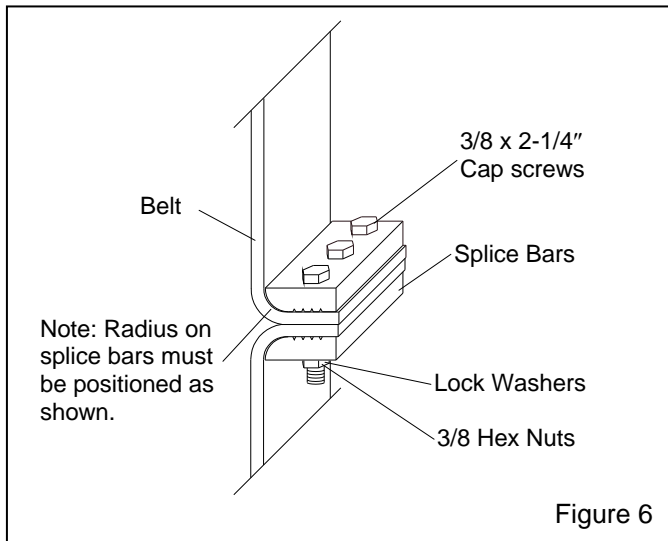

Figure 6
3.9.3 Install the splice bar as shown in Figure 6. Remove the threading rope. Make sure the splice bar bolts are evenly tightened, and the two ends of the belt are aligned properly, as the splice bar is tightened.